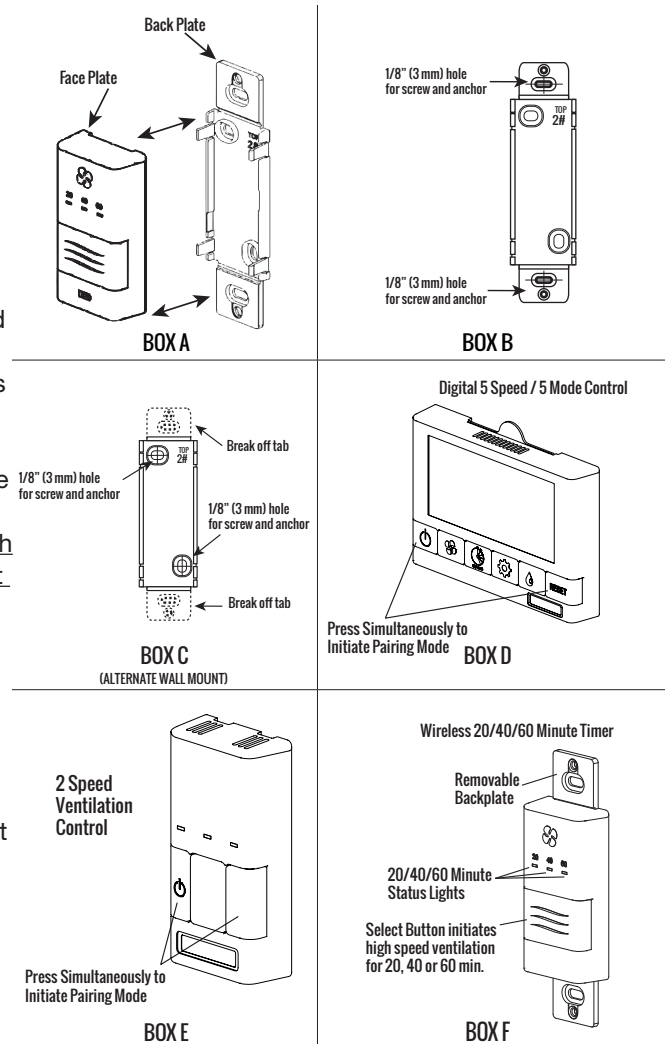

Figure 25. Installation of Timer
1. For the PrecisionSYNC Control (435244), remove the operating instructions card from the top of the control (Figure 25, Box A).
2. Separate the face plate from the back plate by firmly pulling apart (Figure 25, Boxes B or C). Be careful not to damage face plate contact pins.
2. Pairing PrecisionSYNC Control (435244): Press the left and right buttons simultaneously on the control  and RESET buttons. The screen will go blank and the wireless symbol  appear flashing on the bottom right of the display. This indicates that the control is now in pairing mode (Figure 25, Box D).